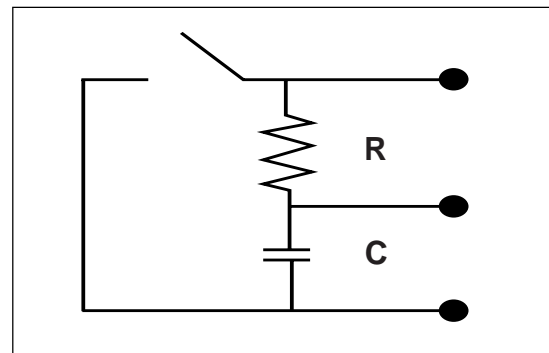

Figure 3
- ① Set up the circuit in Figure 3. Charge the capacitor to an initial potential of 30 VDC. At time $t = 0$, close the switch and use the electrometer to measure the voltage across the capacitor. (Use the switch for steady state readings as in part A (1).)